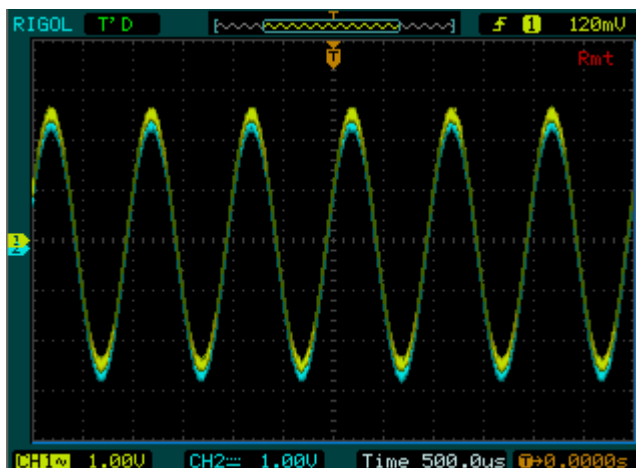
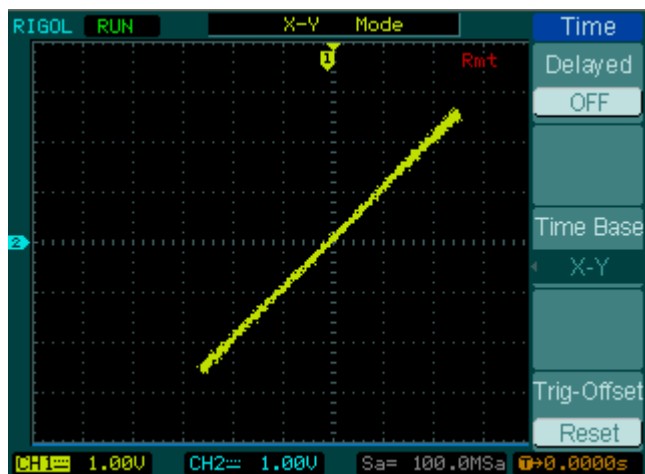

Figure 3-14
Figure 3-15
3. Press **Alignpha** in the above figure, adjust the Oscilloscope, using the Y-T and X-Y (Lissajous Figure) modes to view the waveform output. See Figure 3-14 and Figure 3-15.